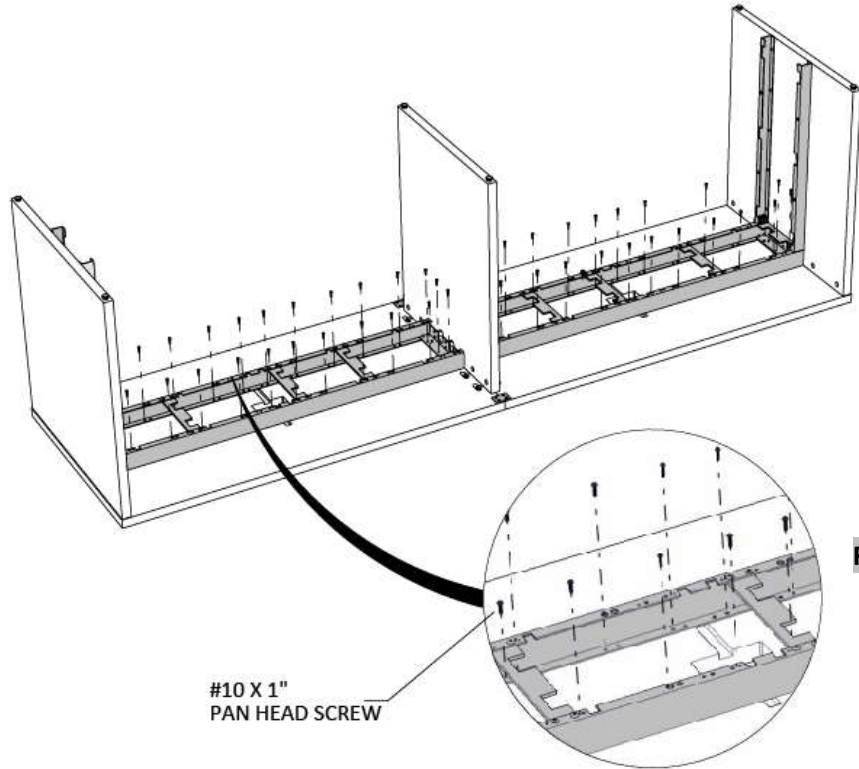

Figure 10
- 11.** Securely fasten the bridges to surfaces, using #10 X 1" Pan Head Screws, (Figure 10).